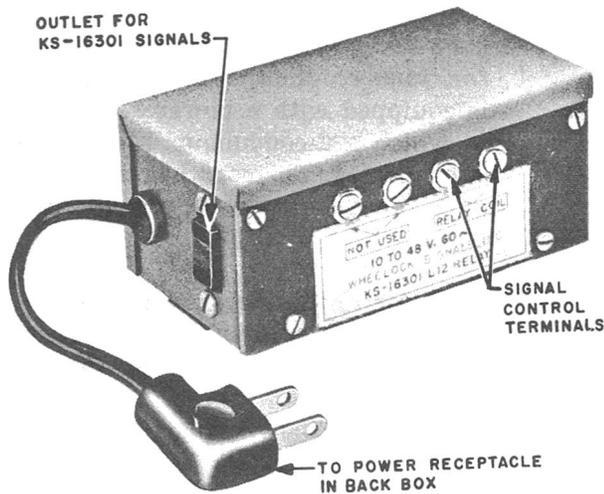

Fig. 10 - KS-16301, List 12 Relay
3.09 List 12 Relay, shown in Fig. 10, is designed to operate on 9 to 48 volts 60 cycles ac.